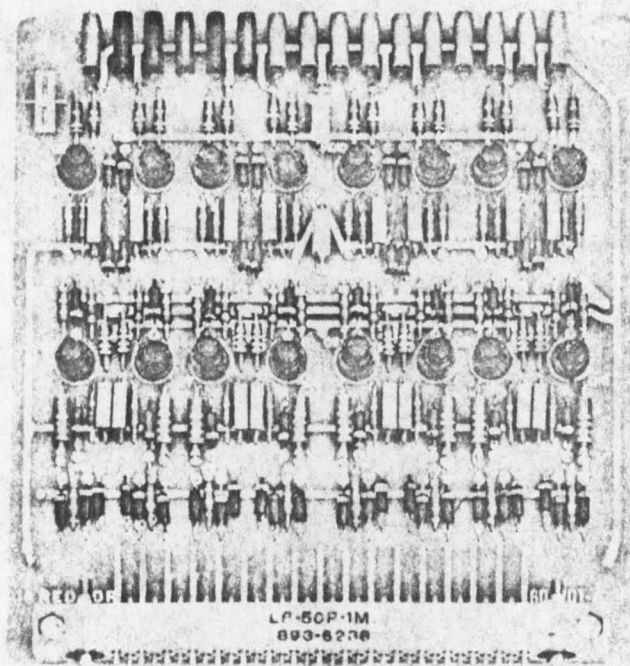

Figure 1. DC Flip-Flop Model 600101
2. Description - The Model 600101 DC Flip-Flop (see Figure 1) is a printed circuit board module consisting of four independent DC flip-flop circuits. The circuit board is a standard 50-pin module card with components mounted on one side. The board assembly measures 5 x 5.4 inches (see Figure 4) and requires one standard card space. Test points are provided on the top edge of the card for waveform observation and trouble shooting during operation.